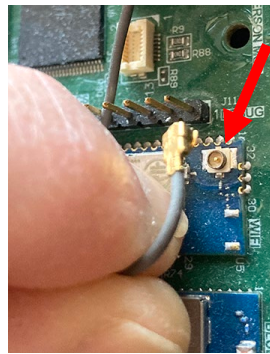

Figure 42
39. Using a small screwdriver, disconnect any existing antenna from the KCCM board if applicable, by gently prying up on the connector and tucking out of the way (see Figure 42).